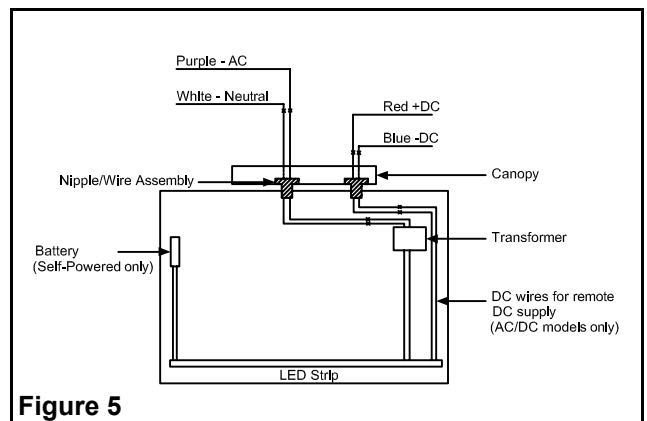

Figure 5
2. **Electrical connections:** Using the sealed AC nipple/wire assembly (3 wires), connect one end to the transformer leads, inside the enclosure, and the other end, to AC line voltage inside the junction box. Connect the white lead to neutral and the purple lead to AC line voltage (the input is universal 110 to 347 VAC). (See fig. 5).
- Optional:** For AC models used with DC remote power, the sealed DC nipple/wire assembly (2 wires) will also need to be installed. One end connects to the LED-STRIP leads, inside the enclosure, and the other end to DC input inside the junction box. Connect the red lead to positive, and the blue lead to the negative of the remote DC input (See fig. 5).